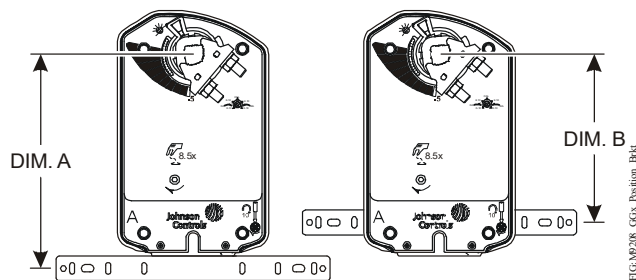

Figure 5: Positioning the anti-rotation bracket
1. See the dimensions in Figure 5 and Table 2 to ensure the correct positioning of the anti-rotation bracket.
3. Mark or drill mounting holes in the damper frame or duct using the anti-rotation bracket as a guide (based on the measurements obtained in Table 2 and Figure 5).